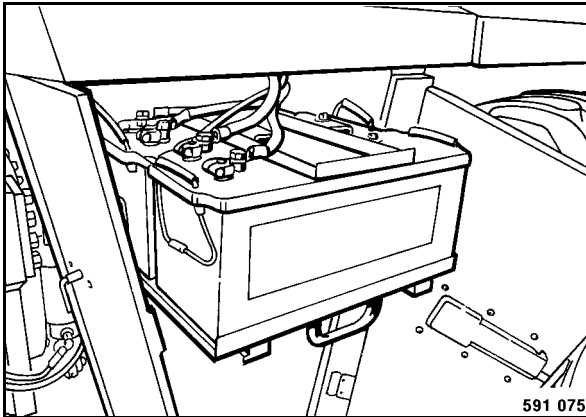

Fig. 9
- Clean battery poles and terminal clamps (Fig. 9) and grease them with pole grease (Vaseline).